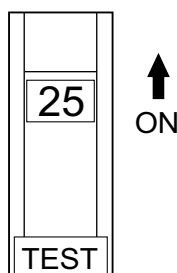

Figure 25. AC Circuit Breaker (ON)
9. Place AC circuit breaker (Figure 25) in the **ON** position .